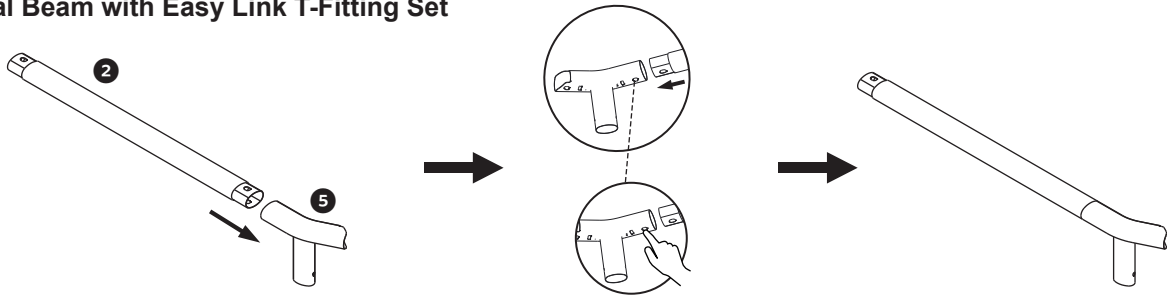

Figure 2
- c) Repeat Steps a) & b) for the other T-Fitting sets and one Easy Link T-Fitting **5** set (see Figure 2).